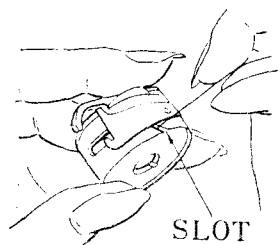
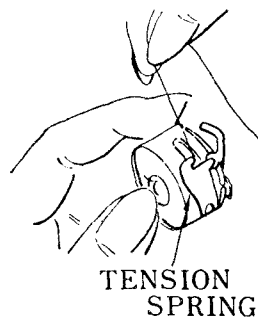

Fig. 6
Fig. 7
2. Take the bobbin between thumb and forefinger of right hand so that the thread on top leads from the left to the right, as shown in Fig. 6.
3. Insert bobbin into bobbin case, pull the thread into the slot of the bobbin case as shown in Fig. 6 and then draw it under the tension spring and into the fork-shaped opening of the spring as seen in Fig. 7.